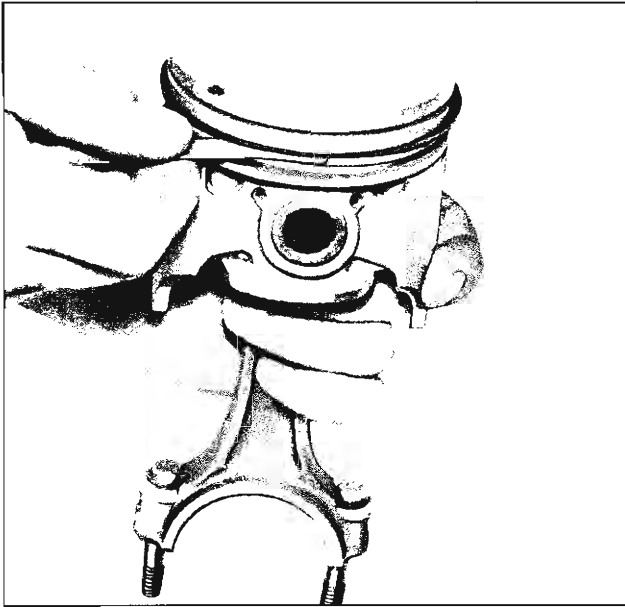

Fig. 59—Checking Groove Clearance
11. Proper clearance of the piston ring in its piston ring groove is very important in maintaining engine performance and in preventing excessive oil consumption. Therefore, when fitting new rings, the clearances between the top and bottom surfaces of the ring grooves should be inspected (fig. 59). Refer to "Engine Specifications" in Section 14 for correct clearances.